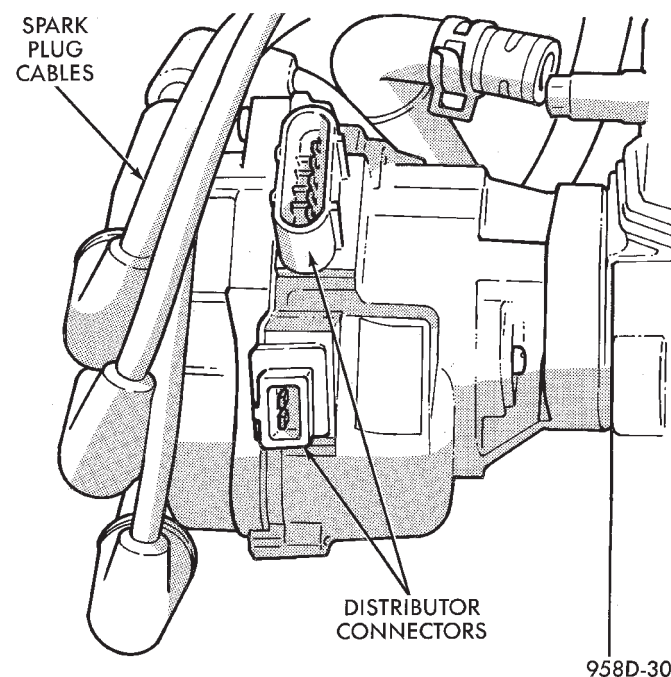

**Fig. 55 Distributor Electrical Connectors—
(9) Mark the rotor position and remove rotor. The mark indicates where to position the rotor when reinstalling the distributor.
(10) Remove 2 harness connectors from distributor (Fig. 55).